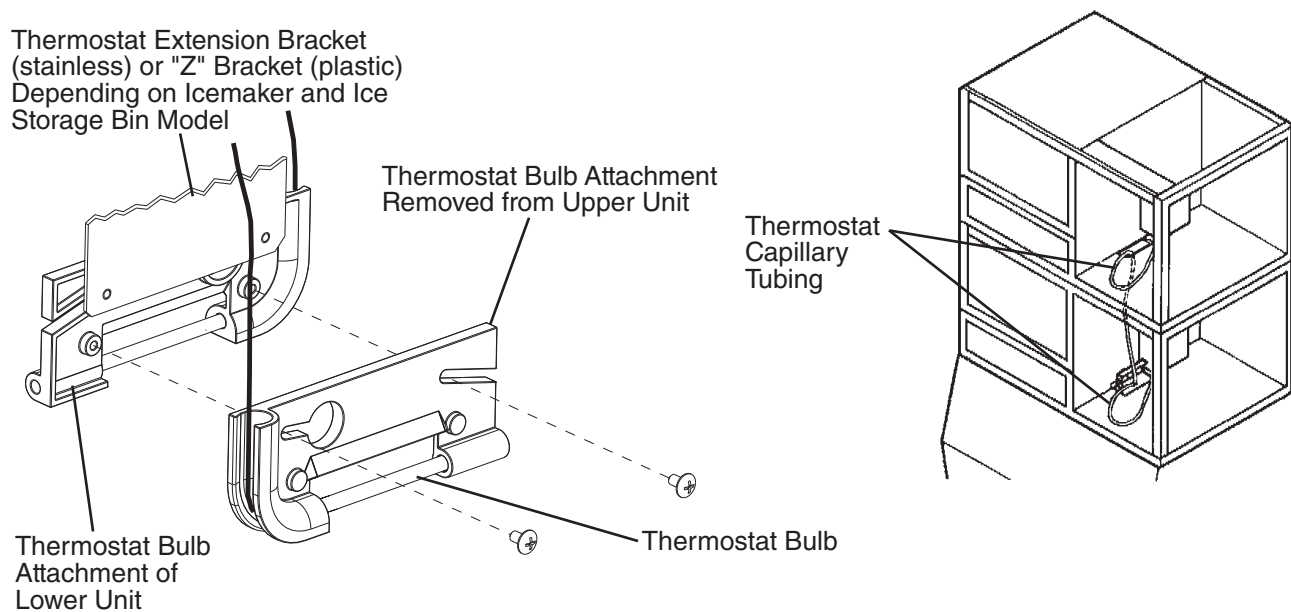

Fig. 11
- 14) Secure the thermostat bulb attachment (plastic) of the upper unit to the thermostat bulb attachment (plastic) of the lower unit with the screws of the upper unit. See Fig. 11.